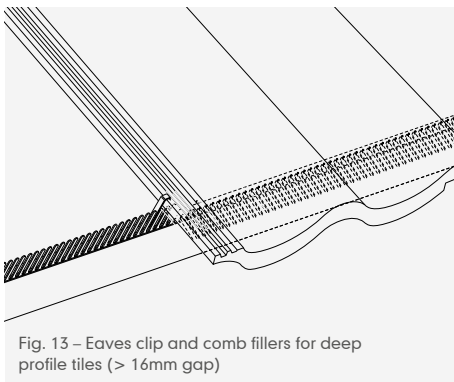

Fig. 13 – Eaves clip and comb fillers for deep profile tiles (> 16mm gap)
- 7 For deep profile tiles, nail comb filler to top of fascia board (Fig. 13).